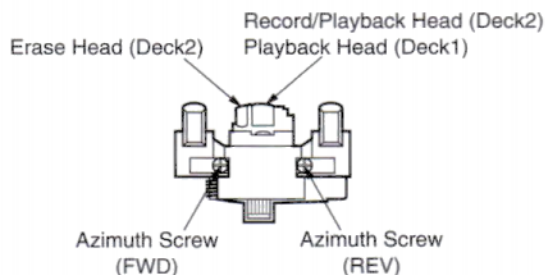

Fig. 3
3. Playback the azimuth adjustment portion (8 kHz, -20 dB) of test tape (QZZCFM). Adjust the azimuth adjusting screw until the outputs of the L/R-ch are maximized. (Refer to Fig. 3.)